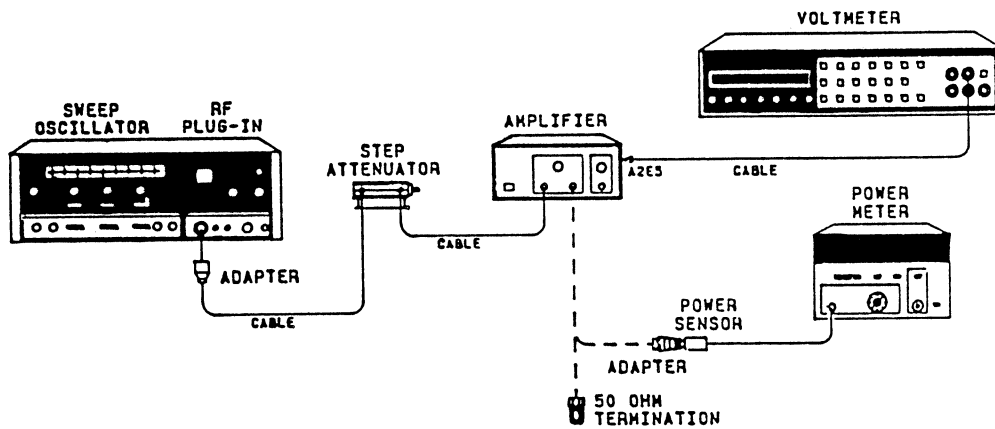

Figure 5-1. Adjustment Procedure Test Setup
1. Set up equipment as shown in Figure 5-1, but do not make any connections to the HP 11975A.
7. Finish connecting equipment as shown in Figure 5-1.